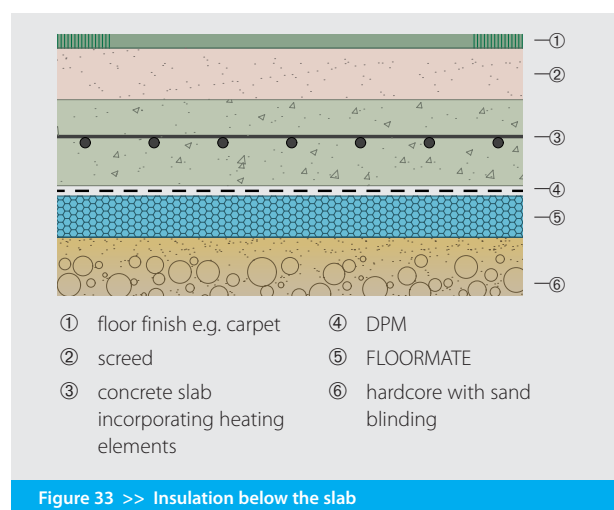

Figure 33 >> Insulation below the slab
- »» below the slab (figure 33).